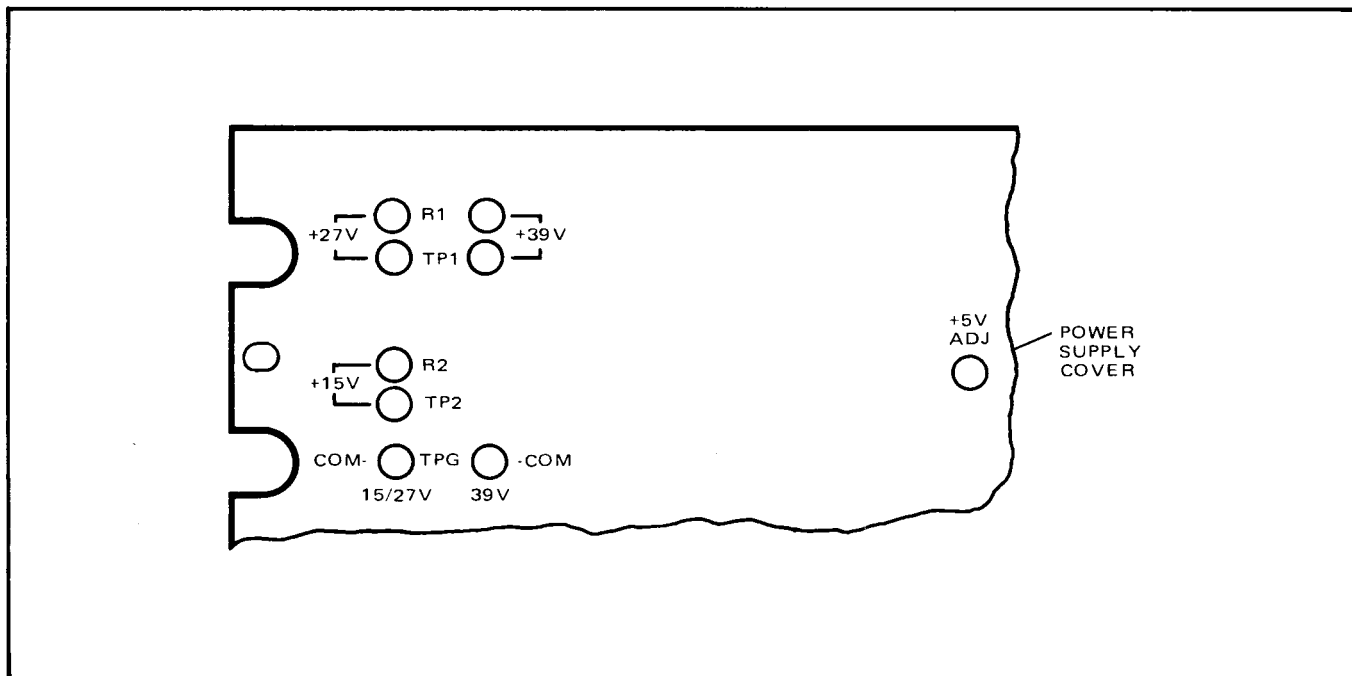

Figure 2-12. Power Supply Test Points and Adjustments
2. Connect a multimeter to 27V-TP1 (positive) and TPG (common) points. (See Figure 2-12.)